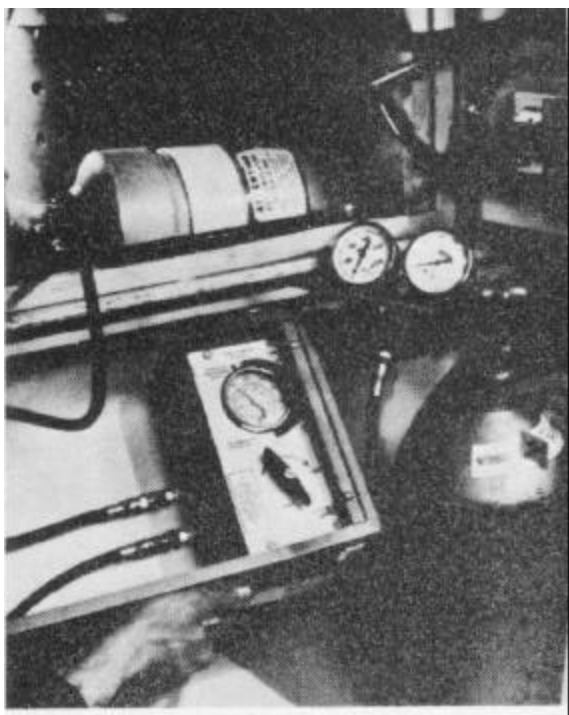

Figure 5-158
1. Taking the six foot long hose stored in the kit which is equipped with a coupling and gland nut, attach it to a dry nitrogen bottle. The dry nitrogen bottle must be equipped with a pressure regulating valve (Fig. 5-158).
2. Turn the shut off valve on the kit counterclockwise approximately three turns (Fig. 5-158).
3. Adjust the pressure regulating valve on the dry nitrogen bottle until the gas pressure on the kit pressure gauge reads approximately 875 psi (Fig. 5-158).